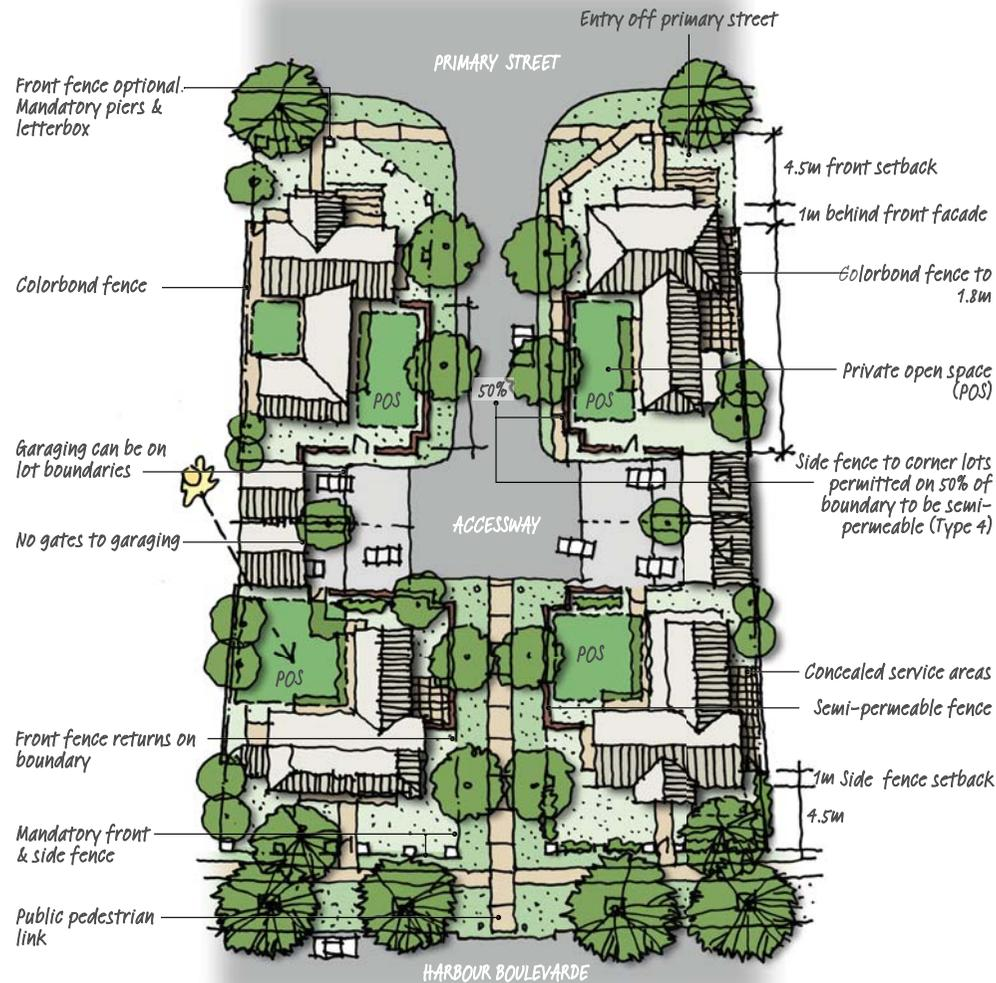

FIGURE 37: Corner lot fencing - special conditions to accessway link - Fence type 4
- Corner Lot fencing to accessway link is to be in accordance with Figure 37.